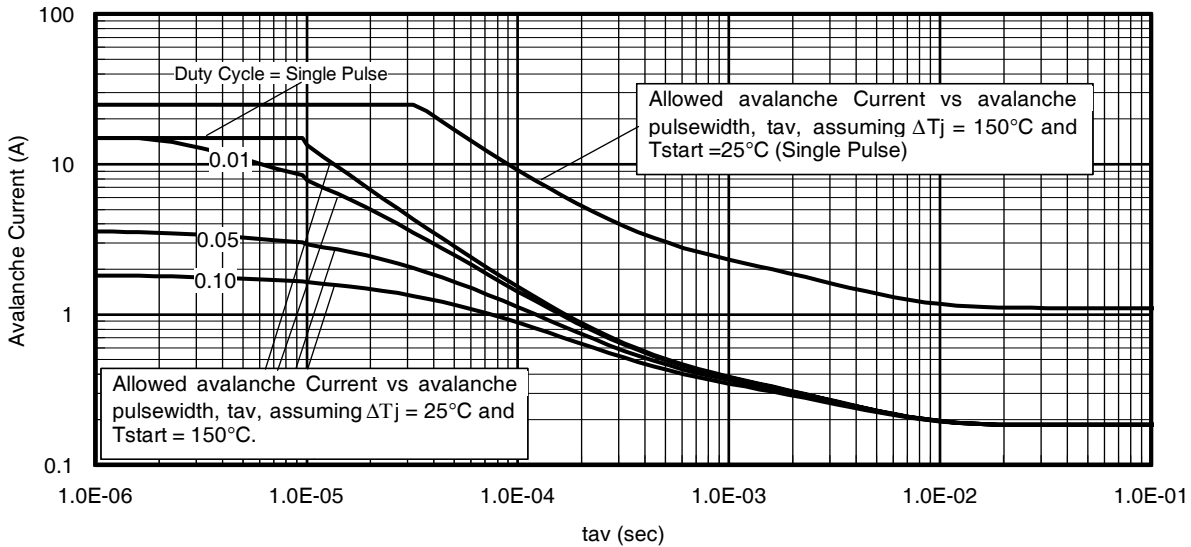

Fig 14. Typical Avalanche Current Vs. Pulsewidth
- ① Repetitive rating; pulse width limited by max. junction temperature.
- ② Starting $T_J = 25^\circ\text{C}, L = 1.00\text{mH}, R_G = 25\Omega, I_{AS} = 15A$.
- ③ Pulse width $\leq 400\mu s$; duty cycle $\leq 2\%$.
- ④ R_θ is measured at T_J of approximately 90°C .
⑤ Limited by T_{jmax} . See Figs. 14, 15, 17a, 17b for repetitive avalanche information
⑥ When mounted on 1" square PCB (FR-4 or G-10 Material). For recommended footprint and soldering techniques refer to application note #AN-994.
Notes on Repetitive Avalanche Curves, Figures 14, 15:
7. ΔT = Allowable rise in junction temperature, not to exceed T_{jmax} (assumed as 25°C in Figure 14, 15).